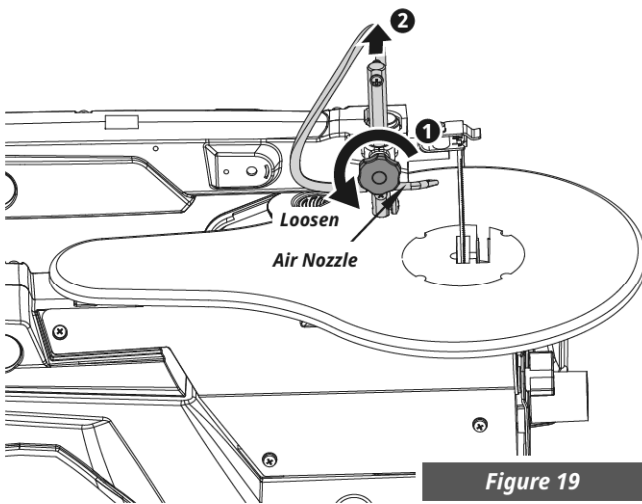

Figure 19
- Adjust the star knob to raise the drop foot fixing pole, which leads to the drop foot going up. (See Figure 19)